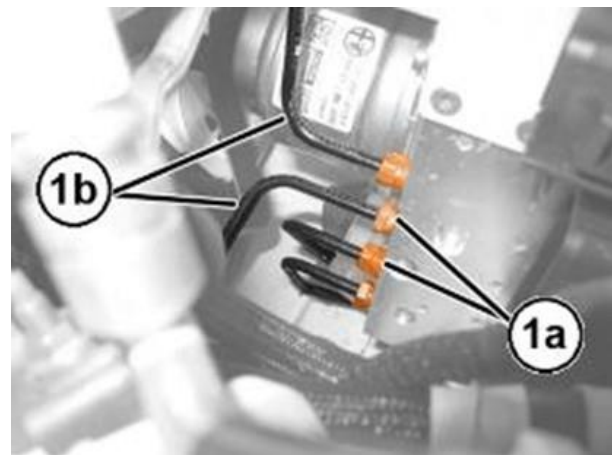

Figure 18 – Brake Fluid Pipes
32. Remove the connectors (1a) and disconnect the brake fluid pipes (1b) from the ABS module (Figure 18).